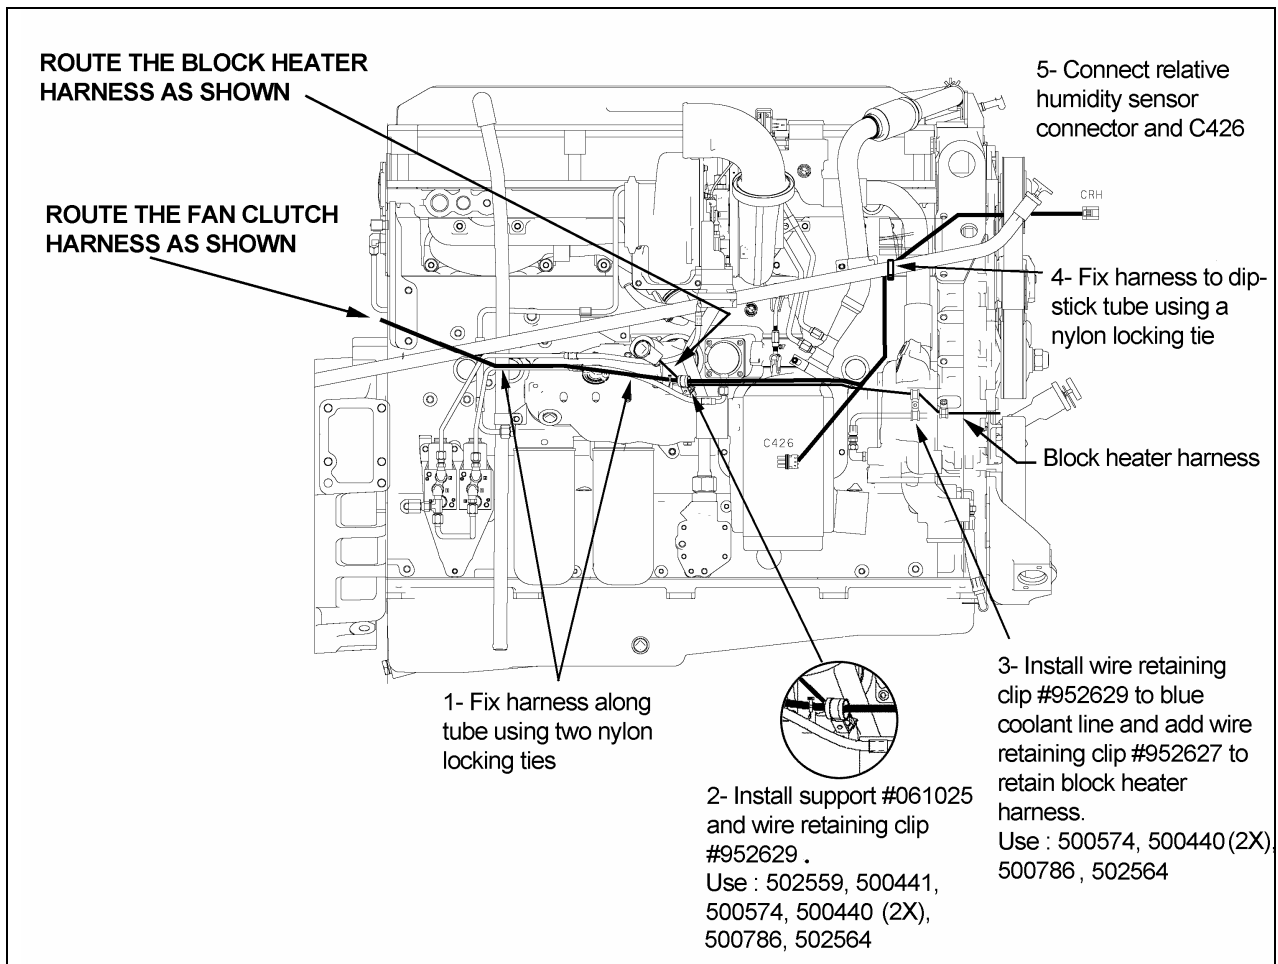

FIGURE 2: REROUTING THE HARNESSES
2. Reroute both harnesses as described in figure 2.